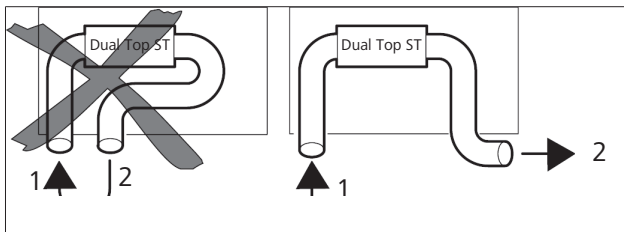

Fig. 21
- ▶ No air due to a short circuit between the heater's air inlet and its air outlet, see also Fig. 21.